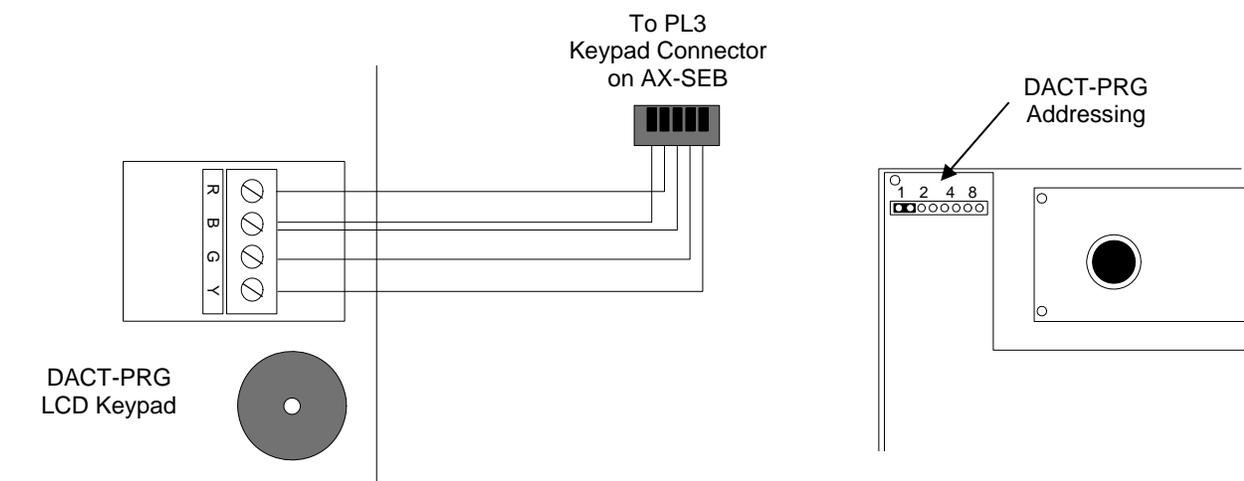

Figure 10 – DACT-PRG LCD Keypad Wiring and Addressing
Carefully pry the back cover of the DACT-PRG LCD Keypad off and wire the provided five (5) wire harness (wire colors; red, two blacks, green, and yellow), with a Molex connector on one end, to the DACT-PRG LCD keypad. See figure 10
With the back cover still removed confirm that the DACT-PRG LCD Keypad address is set to 1. If not, set the address by placing one of the provided black jumpers across pins one and two. This will set the address to 1. See figure 10